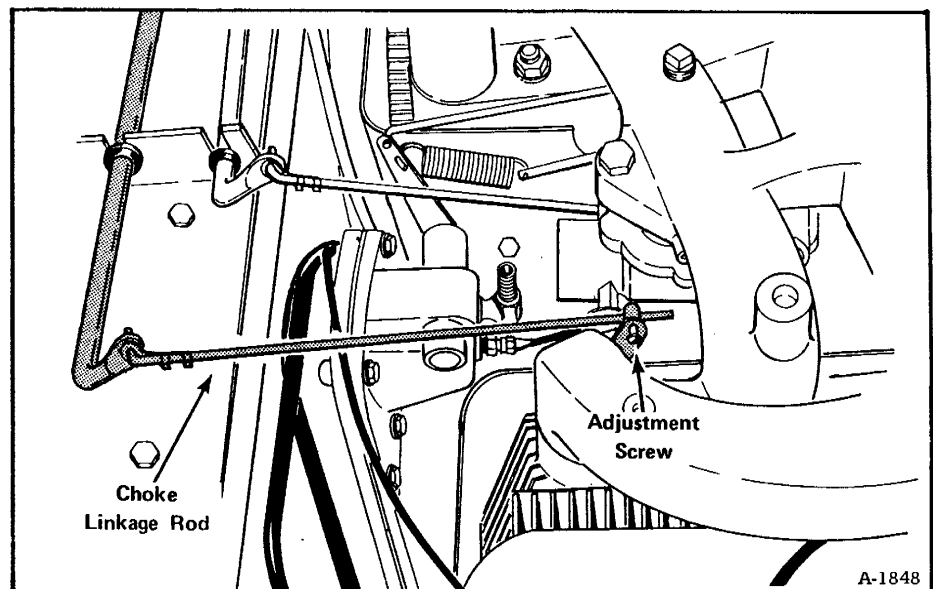

Fig. 1-18 Choke Adjustment
- (1) Loosen the adjustment screw at the engine (Fig. 1-18).
- (2) Hold the choke control knob about 1/8" (3 mm) from full-choke position.
- (3) Hold the choke on the carburetor completely closed, then tighten the screw.